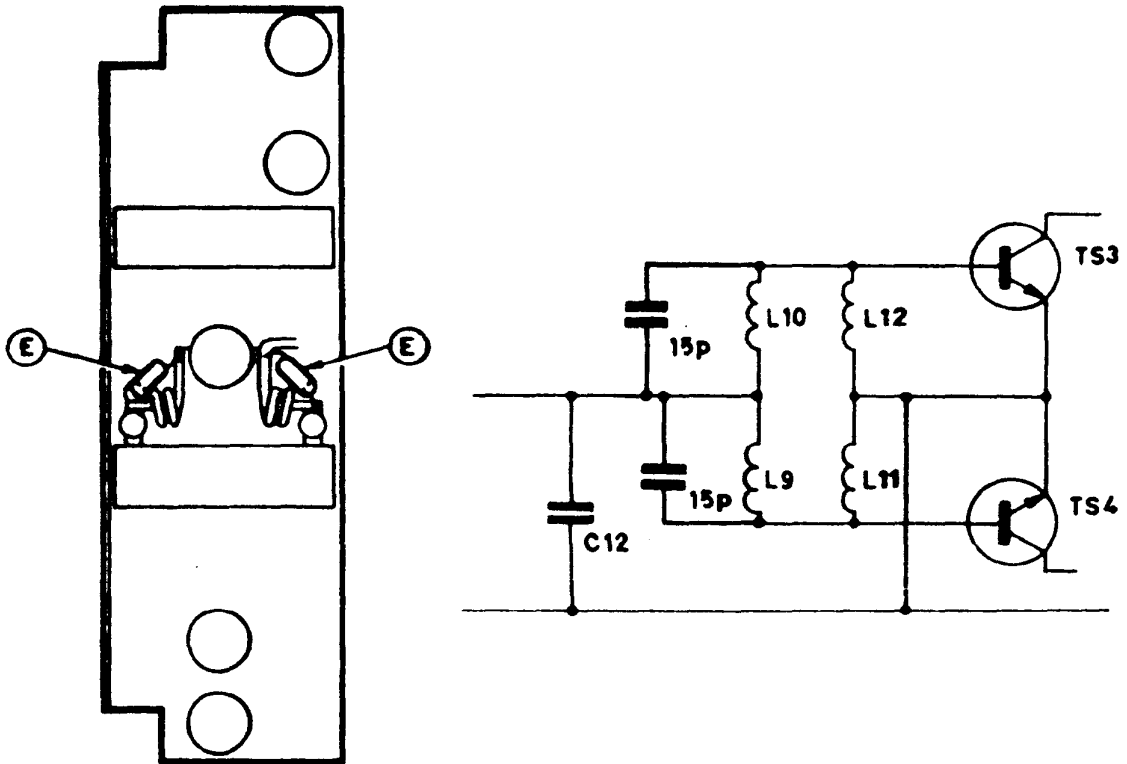

Figure 3-16 U3 Card Additional Capacitor Locations and Modified Circuit
- (1) Solder two 15 pF ceramic tubular capacitors (item E) to PA unit U3 as shown in figure 3-16.